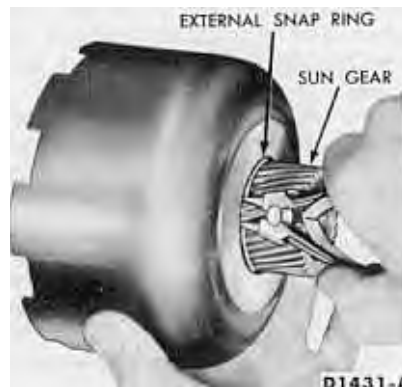

FIG. 82—Removing or Installing Sun Gear External Snap Ring
1. Remove the external snap ring from the sun gear (Fig. 82).
6. Install the external snap ring on the sun gear (Fig. 82).